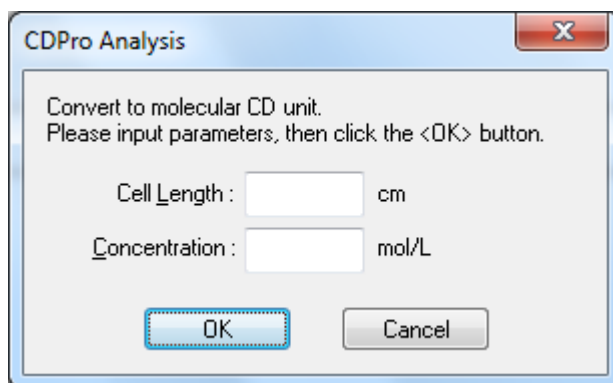

Figure 7. Conversion to CD Units.
- 6.1.6 Enter the cell path-length (cm) and concentration (mean residue concentration in moles/liter calculated from the molecular weight and amino acid residues in the sample molecule) in the appropriate slot (Figure 7) and click 'OK'.